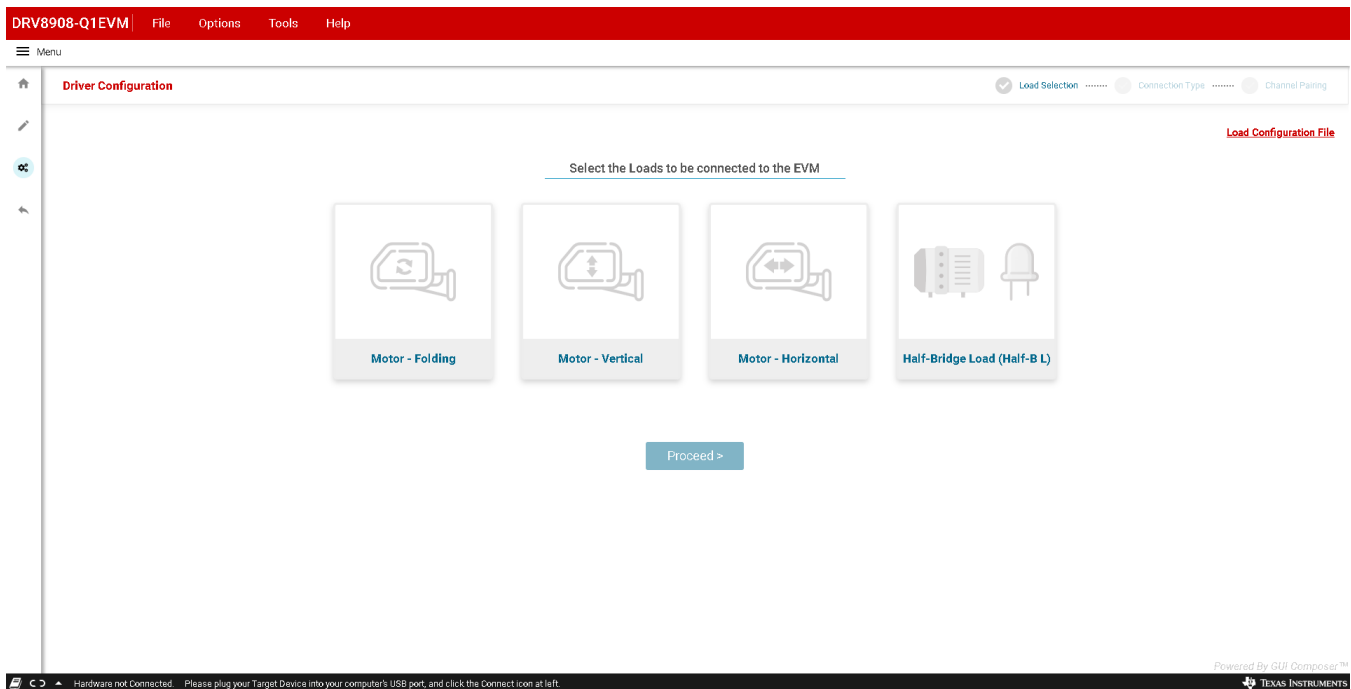

Figure 14. DRV89xx-Q1EVM Side Mirror Control Application Starting Page
Step 12. The following toolbar options are available on the top of the GUI as shown in Figure 14: